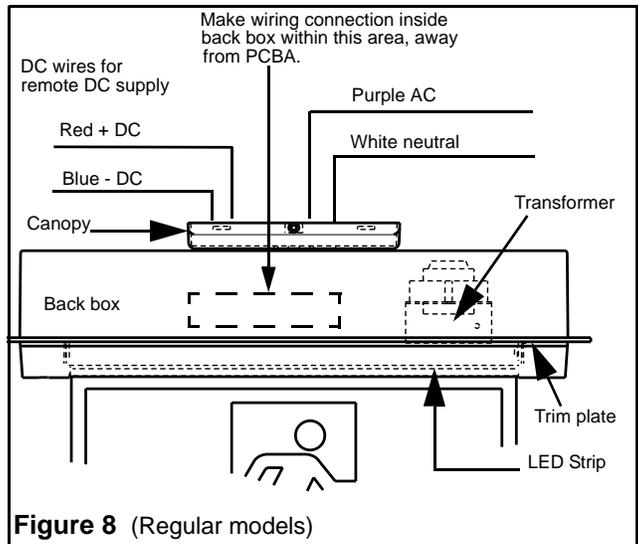

Figure 8 (Regular models)
IMPORTANT: Wiring connections need to be done away from PCBA and in designated area as shown in figure 8 or 9.
4. **Electrical connection (Figures 8,9)**
- b. Make the proper connections. The system can accept input voltages of 120 VAC to 347 VAC. For regular models connect the purple (line) and white (common) leads to the building utility (figure 8). For models with diagnostic feature connect the white (common) and black (120 VAC) or red (347 VAC) leads to the building utility (figure 9).